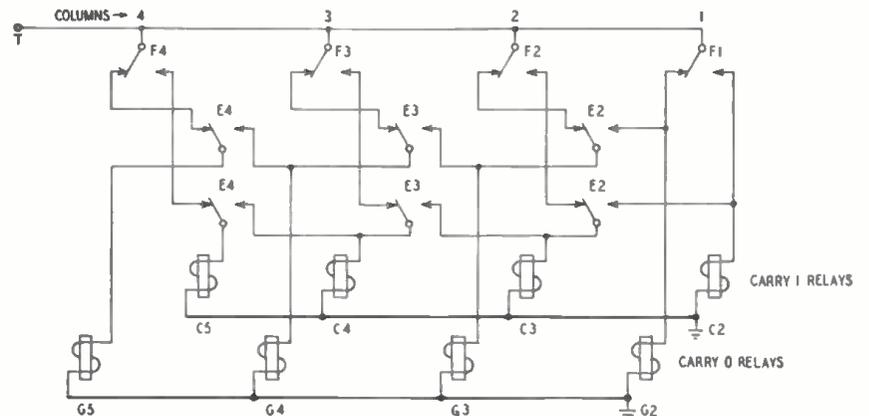
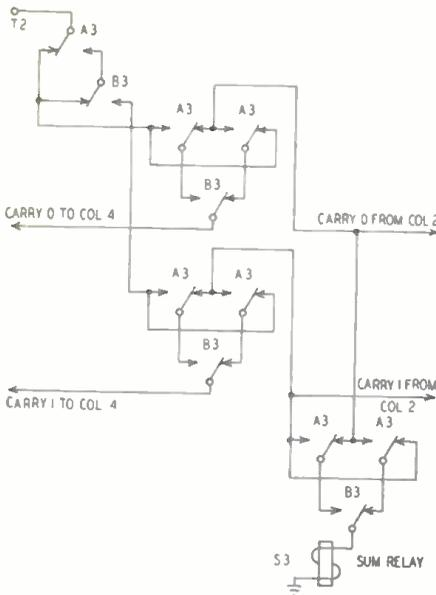

Fig. 2—A 4-column binary carry circuit that will carry 0 as well as carry 1.
Fig. 1—The final adding circuit after simplification. The four parts of Fig. 1 are all combined in this one circuit.
First, two binary numbers to be added, each of four binary digits, are stored in the two registers A and B (called Augend "to be increased" and Addend "to be added"). The relays marked A1 to A4 store the digits in the digit columns 1 to 4, counting from the right—first the one digit, then the twos, the fours, and the eights digits. (See time 1 of Fig. 1). At some previous time these relays have been picked up, and now terminal T1, through the hold contacts of these relays, holds them up while the later circuits operate. For example, suppose 1,011 is stored in the A or Augend register. Then relays A4, A2, A1 are
Let us stop for a moment to explain the convention used in the figures. The coils of relays are *not* drawn next to their corresponding contacts, as is common in radio work, but follow a practice common in electrical diagrams: The contacts of a relay are labeled with the label of the coil. For example, in time 2 of Fig. 1 more contacts of the A and B relays of time 1 appear, all drawn in the unenergized state. To find which of the partial sum (E,F) relays will be energized corresponding to A 1,011 and B 1,101, follow the red contacts.
Returning now to the discussion of the circuit of Fig. 1, at the second time (time 2) terminal T2 is energized, and the E and F relays are picked up and held. The E relay is picked up if there is just a 1 and a 0 in the digit column, and the F relay is picked up if there are two 1's in the column, causing the sum (without carry) to be 10. In other words, the F relay of a column signals that a carry originates. The E relay of a column reports two facts: (1) the sum of the digits without carry in that column is 1; (2) if there is a carry into this column, it should be transmitted into the next column.
To test the circuit of Fig. 1, let us follow through the addition of the first two columns of the two numbers we are adding (1,011 and 1,101). These two columns will have 11 as the augend and 01 as the addend. To begin with, A1 and A2 are both energized to indicate 11; and B1 is energized and B2 is not energized to indicate 01. When terminal T2 is energized, F1 is picked up to indicate that the sum of the first column is $1+1=10$ and that the 1 in this sum must be carried to the next column. E2 is picked up to indicate that the sum of the second column is $1+0=1$. So far we have added the two columns separately and have indicated where numbers are to be carried.
The group of circuits in Fig. 1 can be considerably improved and condensed into a single circuit if we introduce the concept "carry 0" as well as "carry 1". In general, we carry 0 into a column if, and only if, the preceding column contains either both digits 0 or just a 1 and a 0 and is not receiving a carry itself. A circuit that will establish both carry-0 and carry-1 conditions is shown in Fig. 2. This circuit is the same as part 3 of Fig. 1 except that both make and break contacts of the E and F relays are used and an extra set of E relay contacts is needed to perform the carry-0 operation. The G relays record the condition of carry 0.